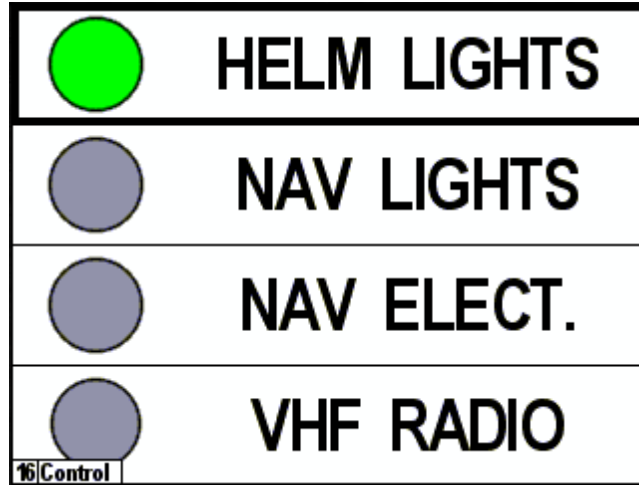

Figure 274 – Favorite Screen Showing Highlighted Switch/Breaker
1. Press the “Enter” key for approximately one second. This will place the display into “Control mode”, and one of the switches/breakers on the screen will be highlighted with a thick border, as shown in Figure 274 below.